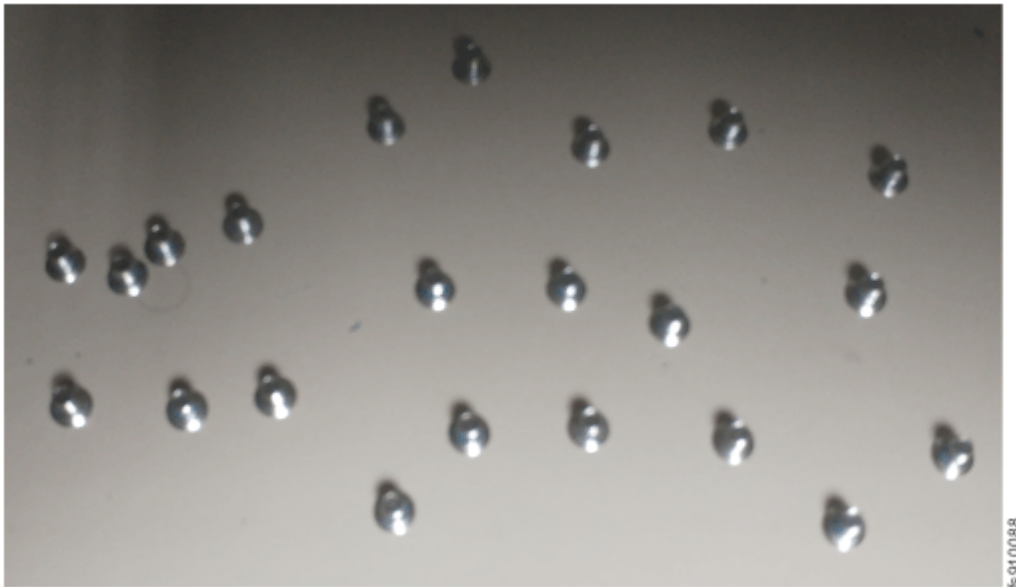

Figure 59. Midplane assembly screws
19. Unpack the replacement midplane assembly. Locate the pack of replacement screws that comes in the package. The package includes 24 screws, but only 22 screws (shown in Figure 59 on page 94) are used to secure the enclosure chassis.